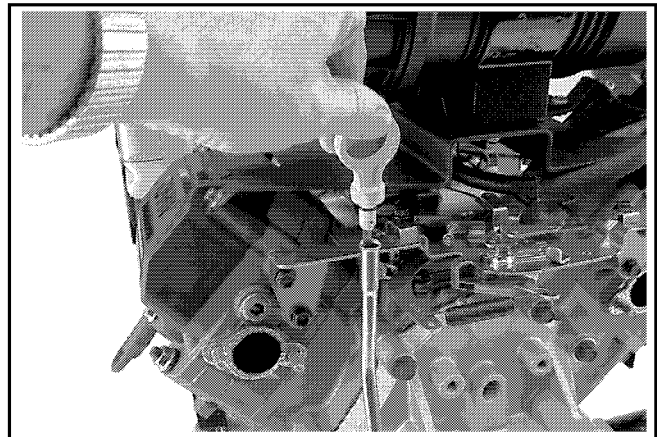

Figure 5. Checking Oil Level.
3. Remove the dipstick; wipe oil off. Reinsert the dipstick into the tube and press all the way down. See Figure 5.